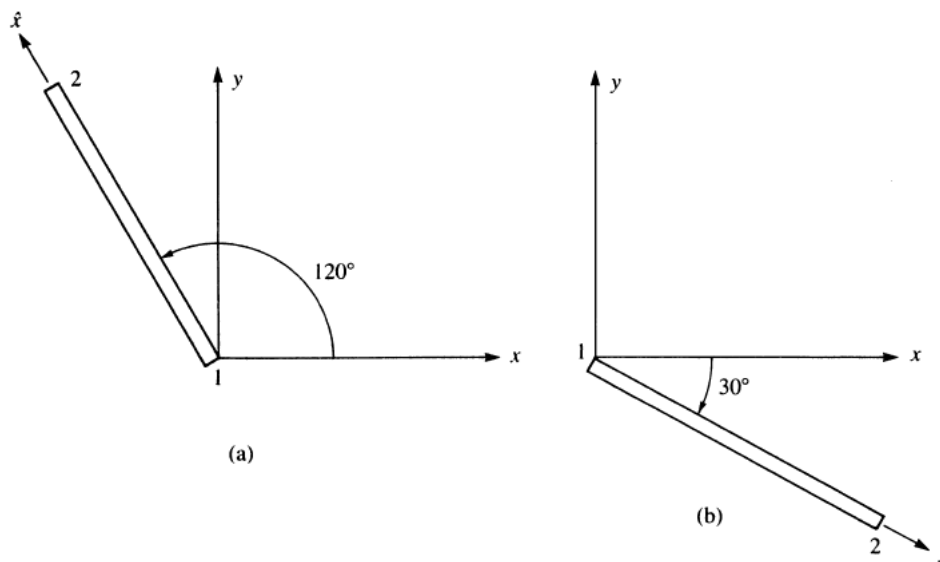

Figure P2.2
2. For the bar shown in **Figure P2.2**, determine the axial stress. Take $A = 10 \times 10^{-4} \text{ m}^2$, $E = 210 \text{ GPa}$, and $L = 3 \text{ m}$. Assume the global displacements have been previously determined to be $\{0 \text{ mm} \ 2.5 \text{ mm} \ 5.0 \text{ mm} \ 3.0 \text{ mm}\}^T$.